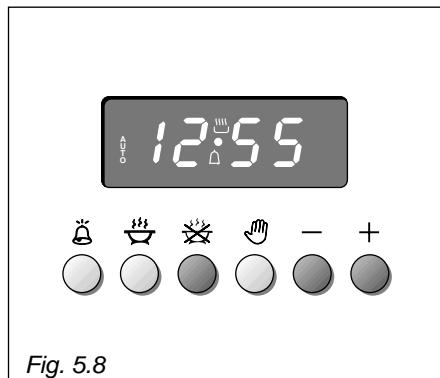

Fig. 5.8
2. Set the time you need the food to stop cooking by pushing the  button and the  button to advance, or  to go backwards if you have passed the desired time (Fig. 5.8).